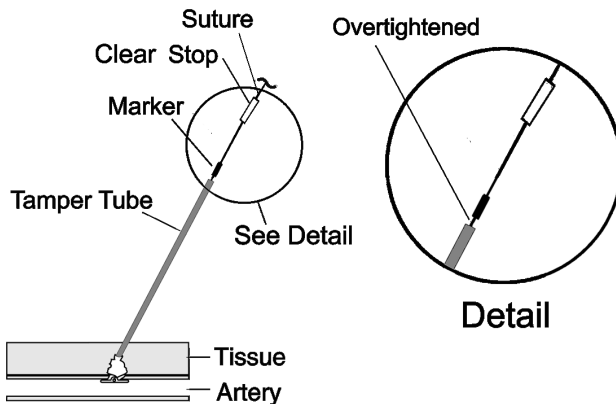

Fig. 17
**NOTE:** Once hemostasis is achieved, do not tamp to intentionally go beyond the distal end of the black compaction marker (as shown in Figure 17) in order to prevent anchor deformation and/or collagen tearing.